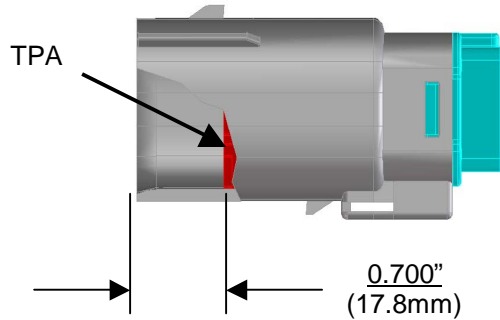

Figure 7: TPA in Locked Position
4. When all terminals or circuit plugs are in their proper location, push down on TPA until it clicks into place and is now approximately 0.700”(17.8mm) from mating edge of outer housing (See figure 7).